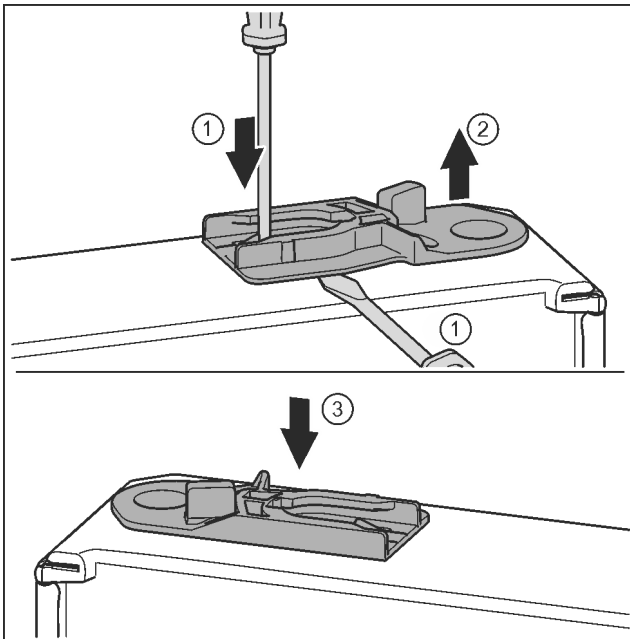

Fig. 35*
- ▶ Pull out the guide bush: Press the tab with a slotted screwdriver and, at the same time, insert the slotted screwdriver under the guide bush.* Fig. 35 (1, 2)
- ▶ Slide the guide bush included in the scope of supply to the other side of the housing.* Fig. 35 (3)